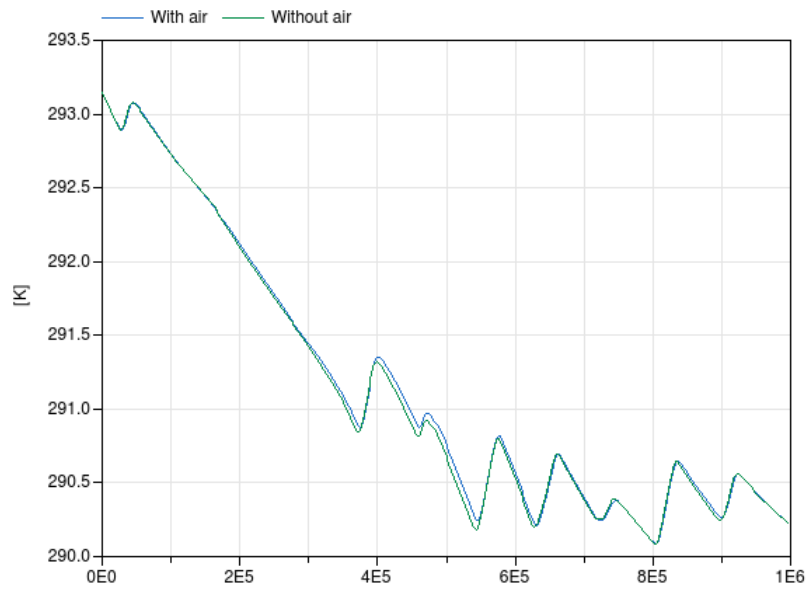

Figure 3: Wall temperature in K as function of time in seconds, with and without air model
**Reference result** The result with and without the air model is plotted in Figure 3.